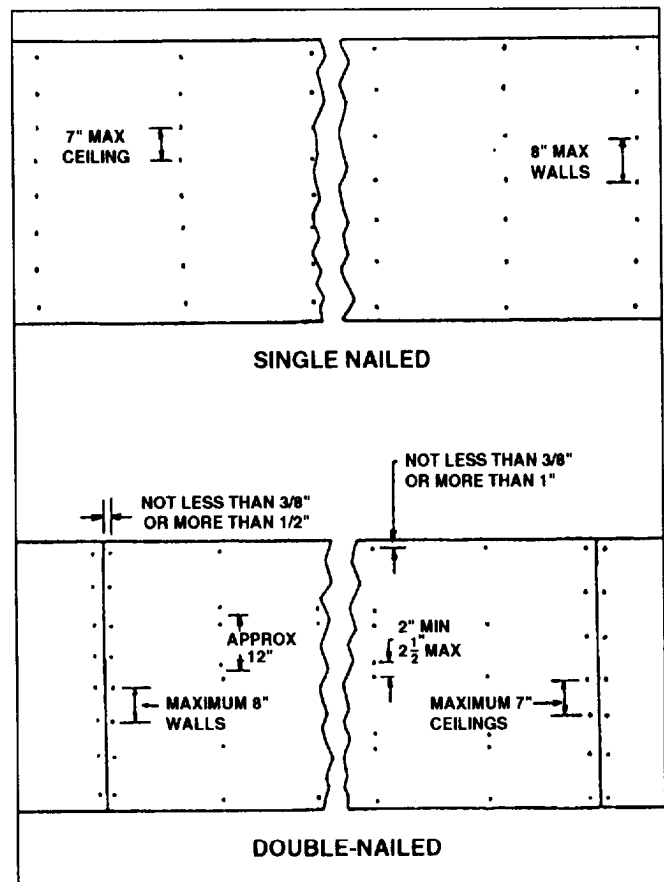

Figure 5-7.—Spacing for single and double nailing of gypsum drywall.
**SINGLE AND DOUBLE NAILING.**— Sheets are single- or double-nailed. Single nails are spaced a maximum of 8 inches apart on walls and 7 inches apart on ceilings. Where sheets are double-nailed, the centers of nail pairs should be approximately 12 inches apart. Space each pair of nails 2 to 2 1/2 inches apart. Do not double-nail around the perimeter of a sheet. Instead, nail as shown in figure 5-7. As you nail, it is important that you dimple each nail; that is, drive each nail in slightly below the surface of the drywall without breaking the surface of the material. Dimpling creates a pocket that can be filled with joint compound. Although special